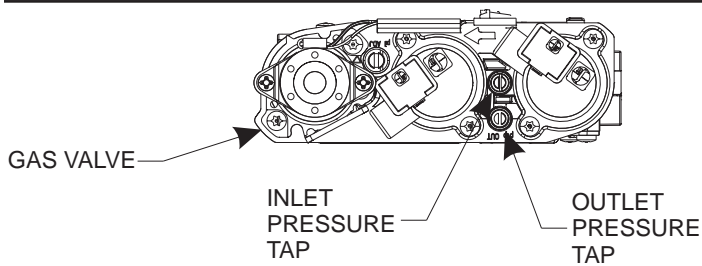

Figure 16
**NOTICE:** The gas control is equipped with a captured screw type pressure test point; therefore it is not necessary to provide a 1/8 inch test point up stream of the control. **See Figure 16.** When using copper or flex connector use only approved fittings.